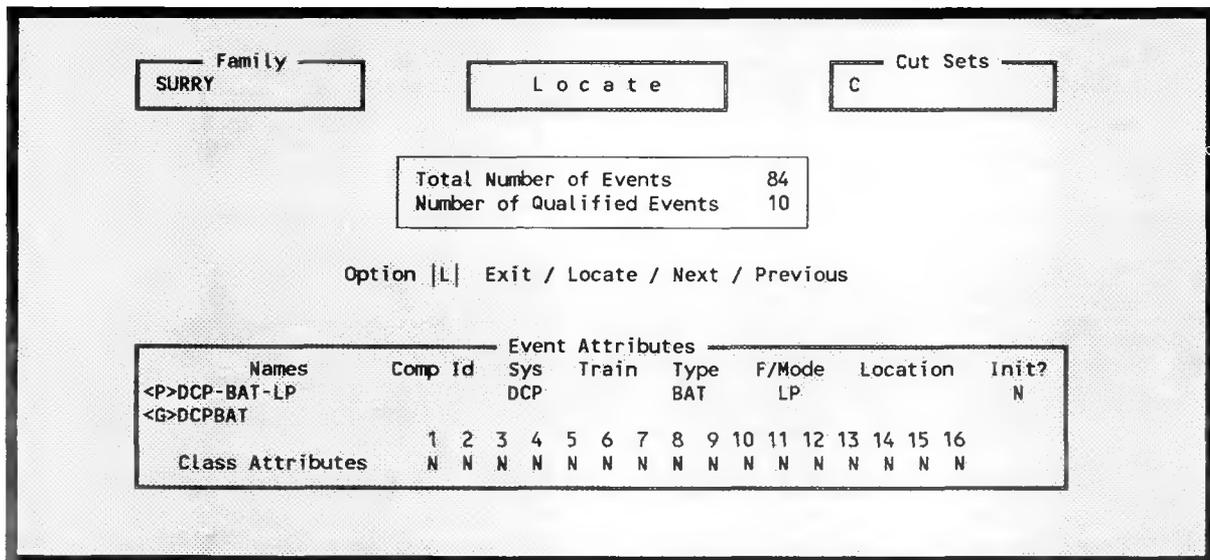

Figure 106. Results of a locate request.
5.5.5.2 Locate. This option searches the list of all existing events and the list of all newly added events for events which meet the desired search criteria. This option allows wild card search characters for the two name fields on the screen. A question mark (?) matches any single character in its specified position, and an asterisk (*) matches a character string of any length. This option will use any of the filled event attribute fields on the screen as search criteria. Any events which meet the selected search criteria are considered to be qualified events. The number of currently qualified events will then be updated on the screen. The first qualified event will be displayed on the screen (Figure 106).